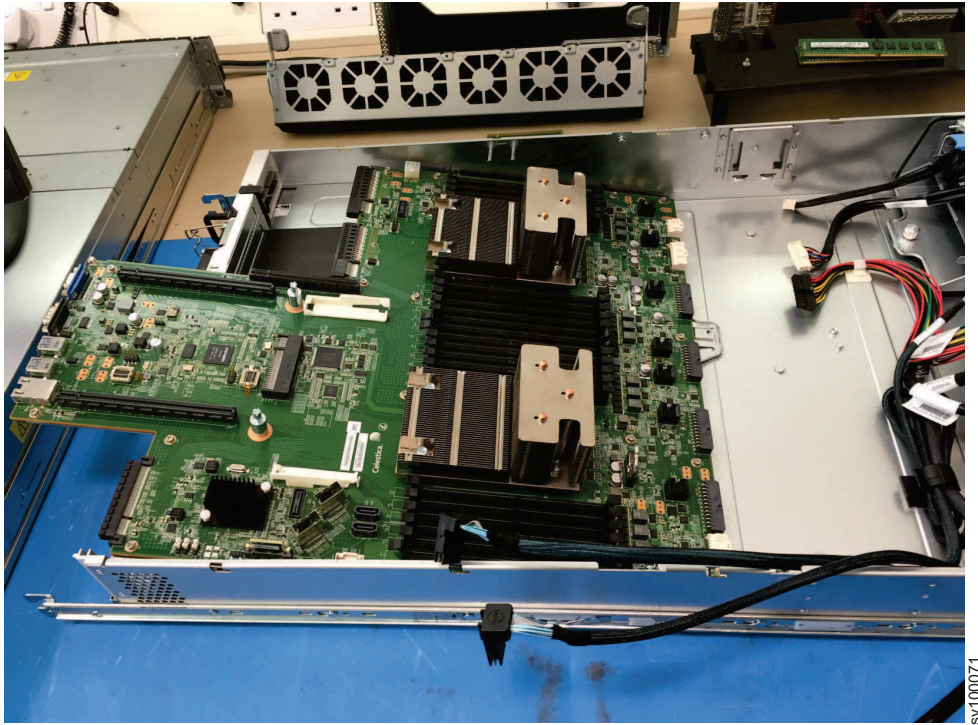

Figure 203. Removing the 2145-SV1 main board
17. Carefully push the main board forward a little to release it. Then, raise the main board at a slight angle, as shown in Figure 203.